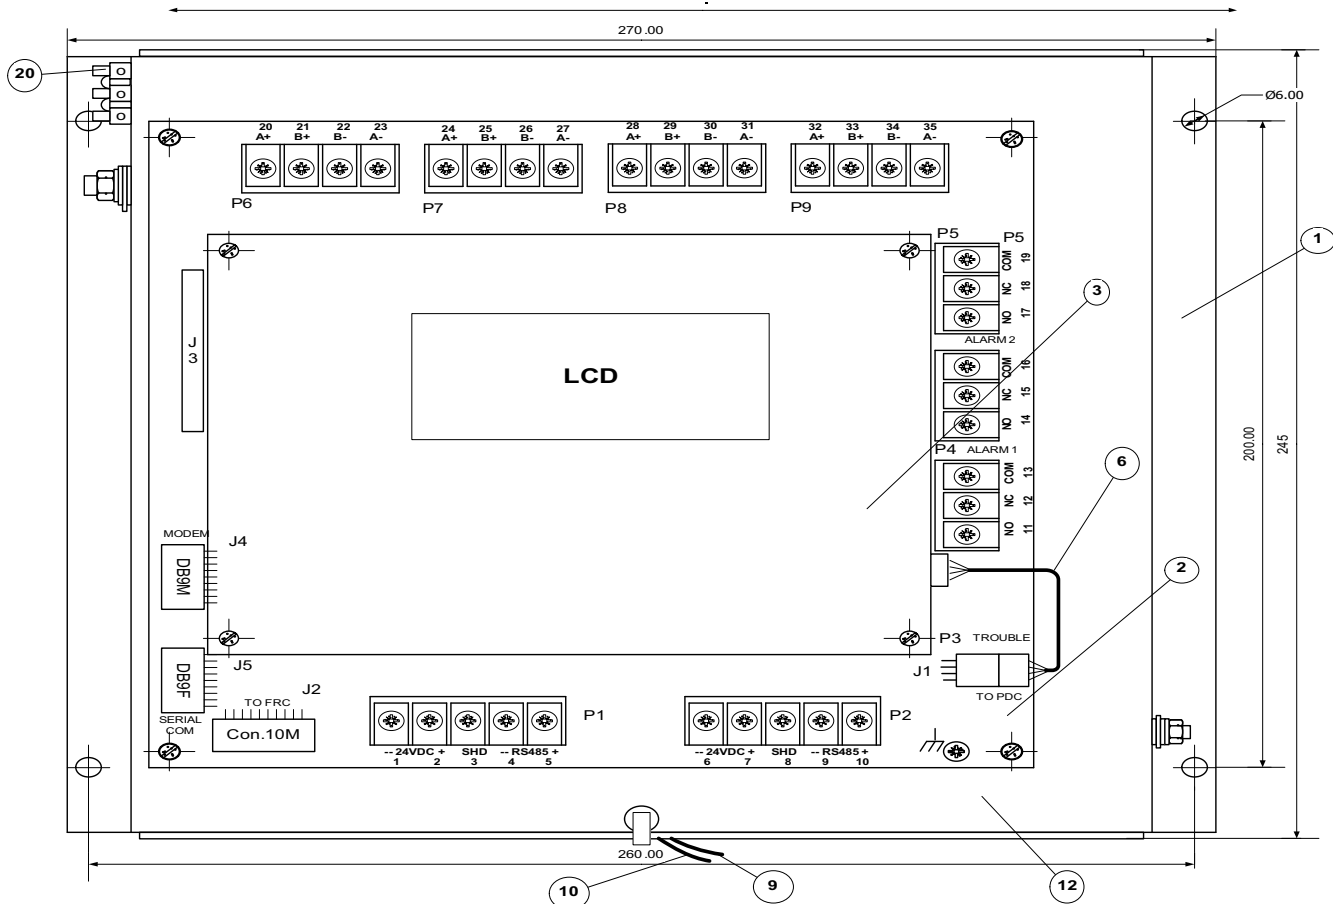
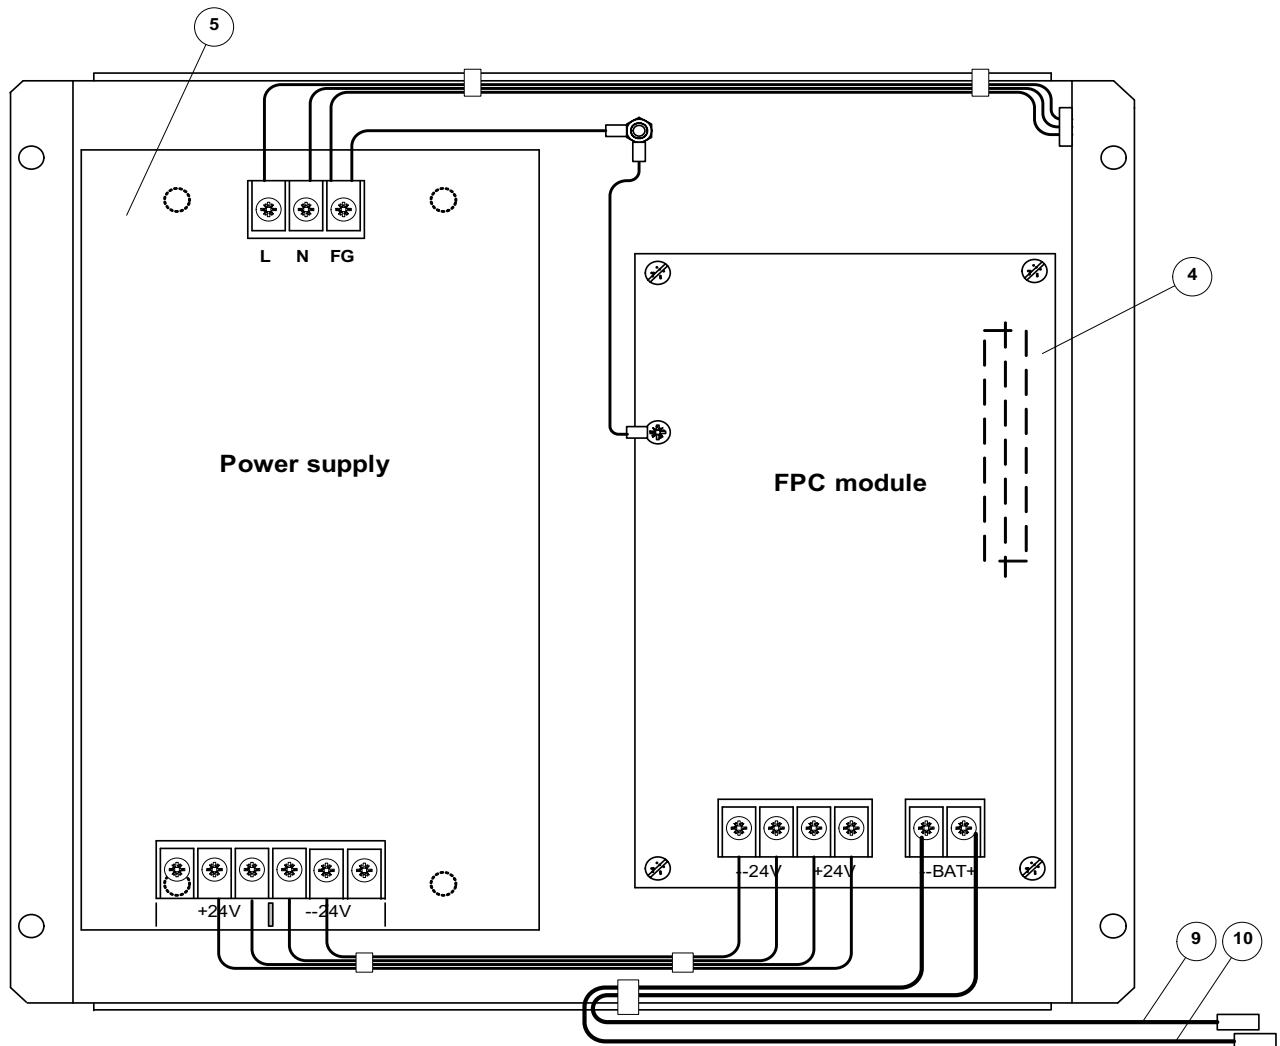
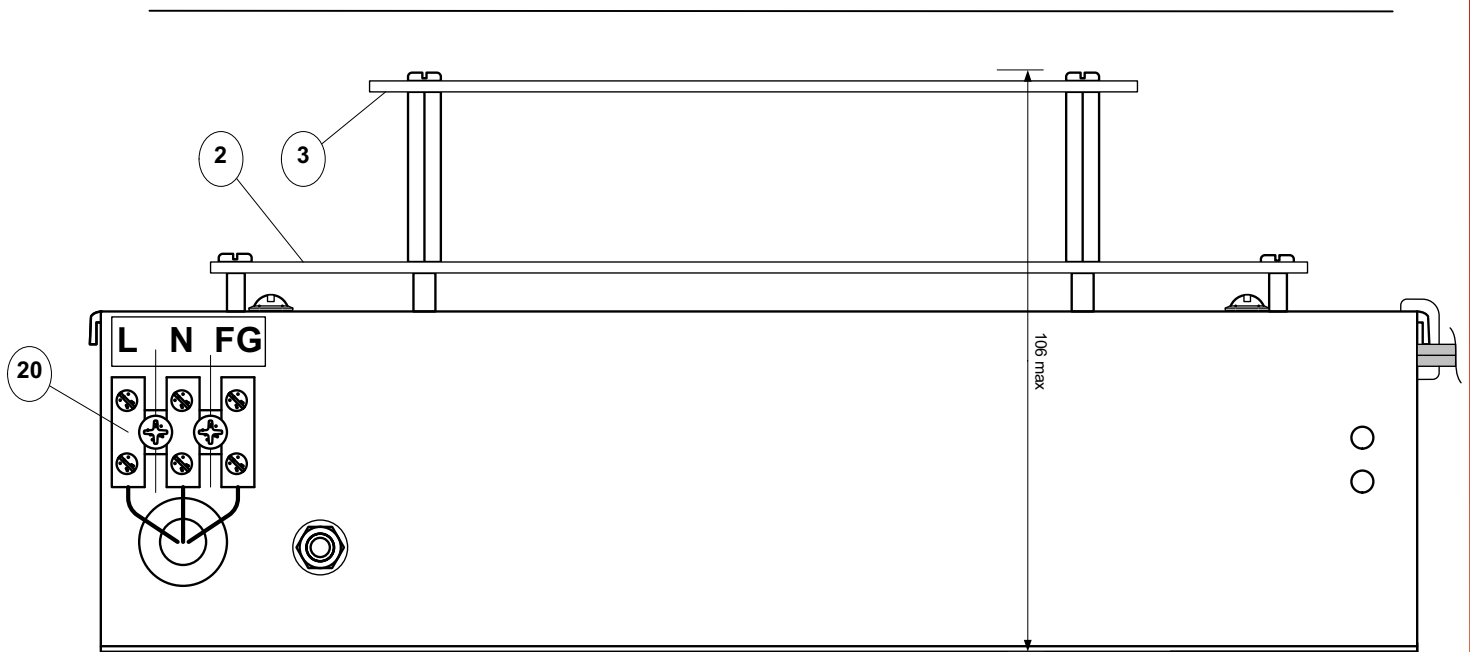
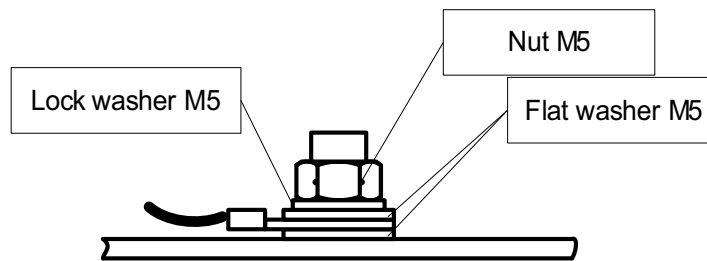

Fig.1 Main Panel (front image)
Fig.2 Main Panel (bottom image)
Fig.3 Main Panel (left side image)
Fig.5 The Device EGND wire connection to the Cabinet bottom stud.
The Main Panel (Fig.1, Fig.2 and Fig.3) includes the MCC module (pos.2), PDC-L module (pos.3), FPC module (pos.4) and Power Supply (pos.5), which are assembled on the chassis (pos.1).
The Device is mounted in the Main cabinet Enclosure (model # 03.057) and maybe mounted in another UL listed cabinet enclosure that is corresponded by the mounting and overall dimensions to this Device. The mounting and overall dimensions are shown on Fig.1 and Fig.3.
- The EGND wire (pos.14, Fig.3) secure to the bottom stud according to Fig.5.
Connect power cable to the power terminals (pos.20, Fig.3) according to the stickers on the chassis